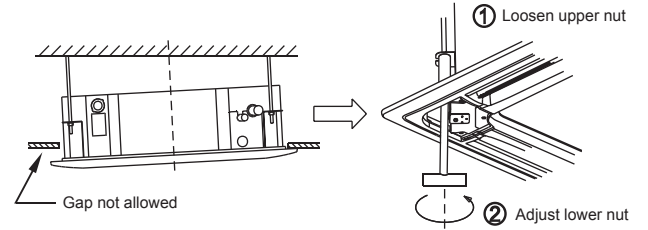

Fig.5-15
- If the gap between the panel and ceiling still exists after fastening the screws, the height of the indoor unit should be modified again. ( Refer to Fig.5-15-left)